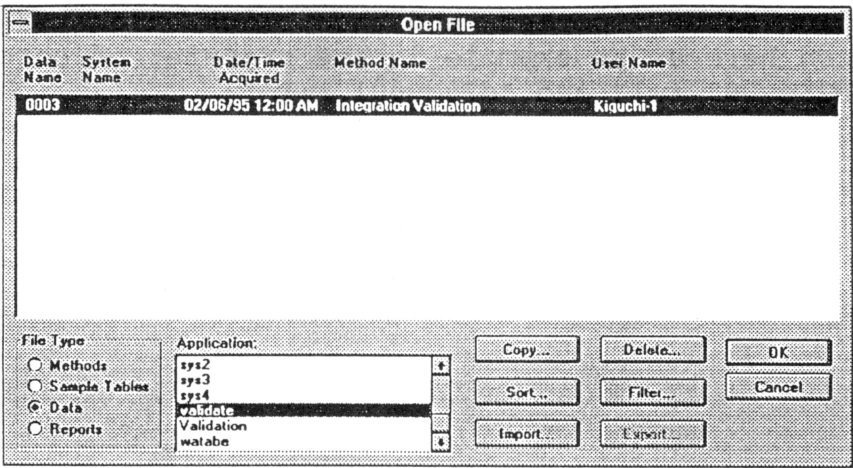

Fig. 5-1 Data Reprocessing Screen
- (1) Start the D-7000 HSM.
- (2) Select the application in conversion system.
- (3) Click on the icon of data processing control to open "Open File." The screen shown in Fig. 5-1 will be displayed.